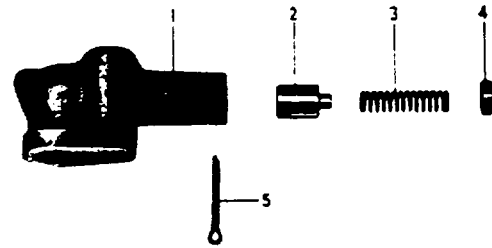

Fig. L.11.
4. Remove the splitpin from the end of the relief valve housing and withdraw the cap, spring and plunger. An exploded view of the relief valve assembly can be seen in Fig. L.11.